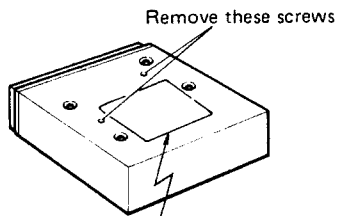

Fig. 2-1
2. A "CERTIFICATION AND IDENTIFICATION" label is affixed to the bottom of the player. (Fig. 2-1, 2)
- Two screws are affixed to the bottom of the unit to secure the mechanism during transport. Be sure to remove these screws before installation of the player. (Fig. 2-1)